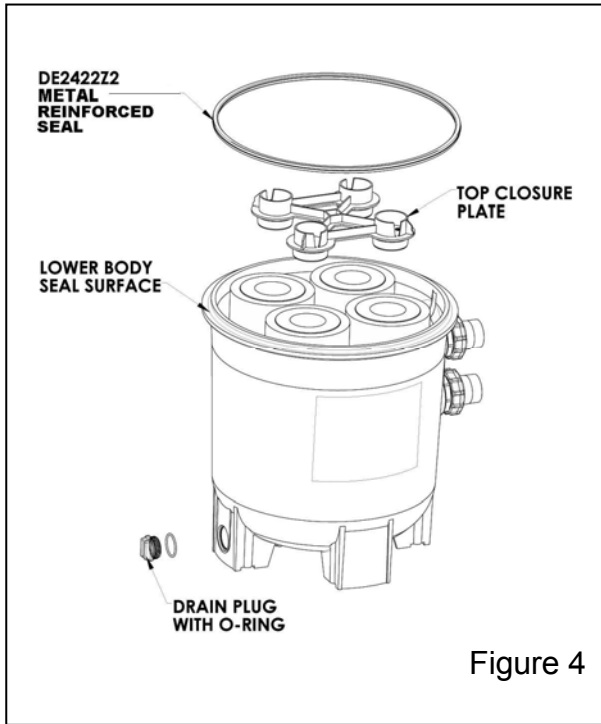
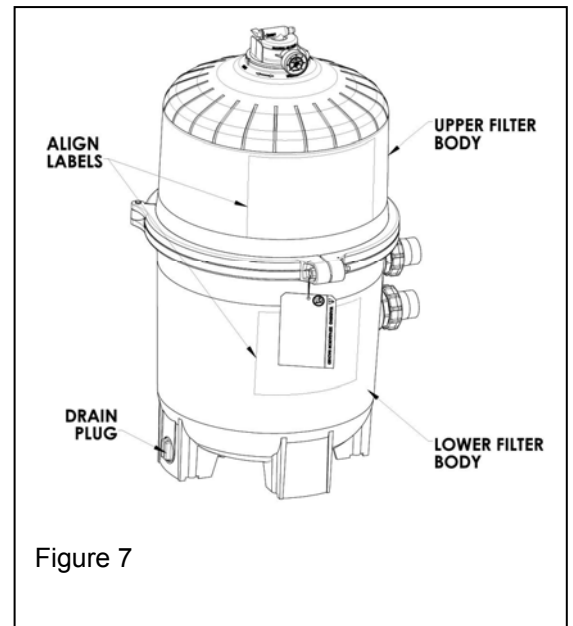

Figure 4
Figure 7
2. Close filter drain. Note: Filter plug requires an o-ring seal. (See Fig 4)
4. Remove filter drain plug (Fig 4) and drain water from filter.
1. Remove the top closure plate, which is exposed when the upper filter body is removed. (Fig 4)
2. With a clean cloth, wipe the lower filter body seal surface and clean seal of all dirt and debris. (Fig 4) Do not use a solvent.
1. Place the metal reinforced seal on lower filter body. (Fig 4) Place upper filter body on metal reinforced seal and lower filter body in a position which allows all operation and safety labels to be clearly visible and the upper filter body to be centered on the lower filter body. Press down firmly and evenly on the upper filter body to seat the seal. (Fig 7)
2. Replace the filter clamp around the upper and lower filter bodies. Hold the clamp ends to position the clamp on the filter bodies with the clamp ends adjacent to the safety and operation labels on the filter bodies. (Fig 7)